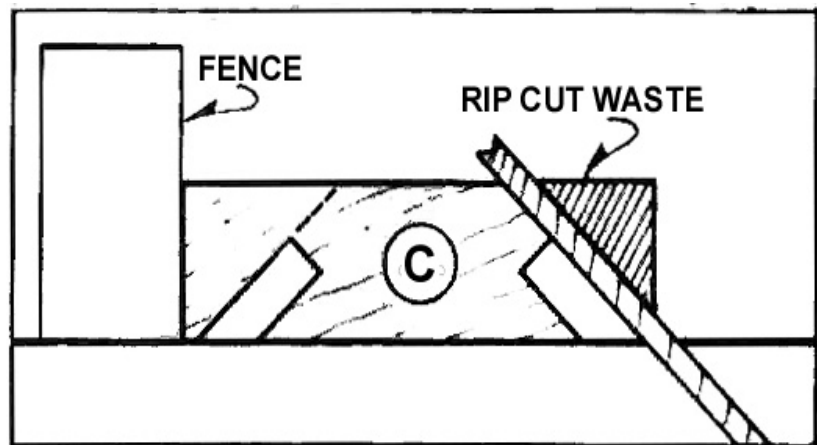

Figure 5: Trimming the Back Support (C) Waste
8. Rip the waste away from the back support (C) (see **Figure 5**).